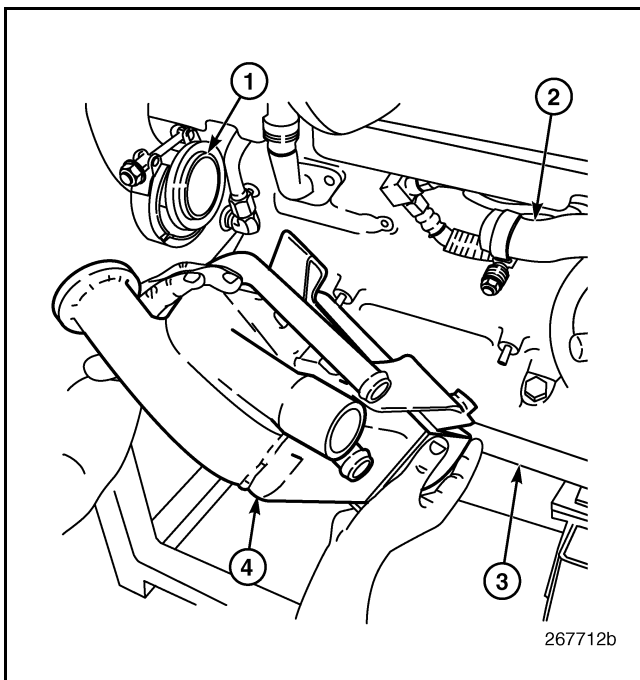

Figure 429 — EGR Cooler Installation
1. Place the EGR cooler assembly in position at the right side of the cylinder block (Figure 429). Install the four retaining nuts and tighten to specification.